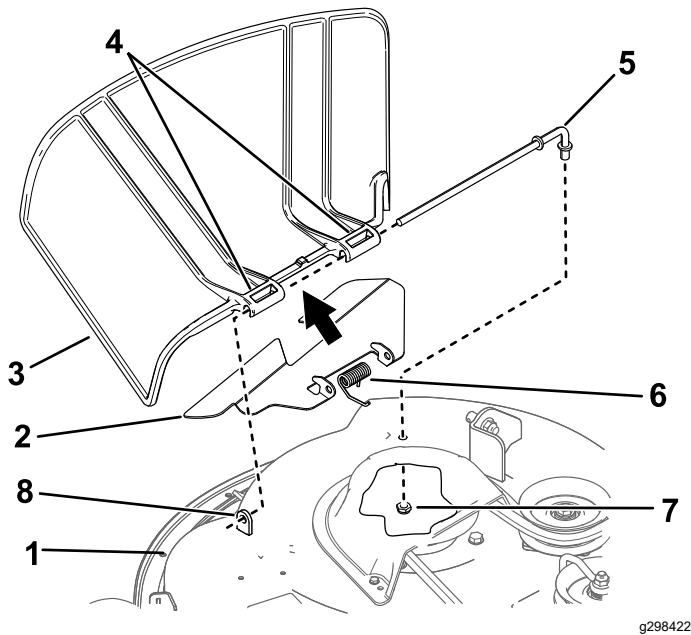

Figure 72
1. Remove the nut (3/8 inch) from the rod under the mower (Figure 72).
4. Install the new grass deflector and the baffle (Figure 72).
7. Slide the rod through the baffle and second grass-deflector bracket (Figure 72).
9. Secure the rear end of the rod into the mower with a nut (3/8 inch) as shown in Figure 72.
2. Slide the rod out of the short stand-off, spring, baffle, and grass deflector (Figure 72).